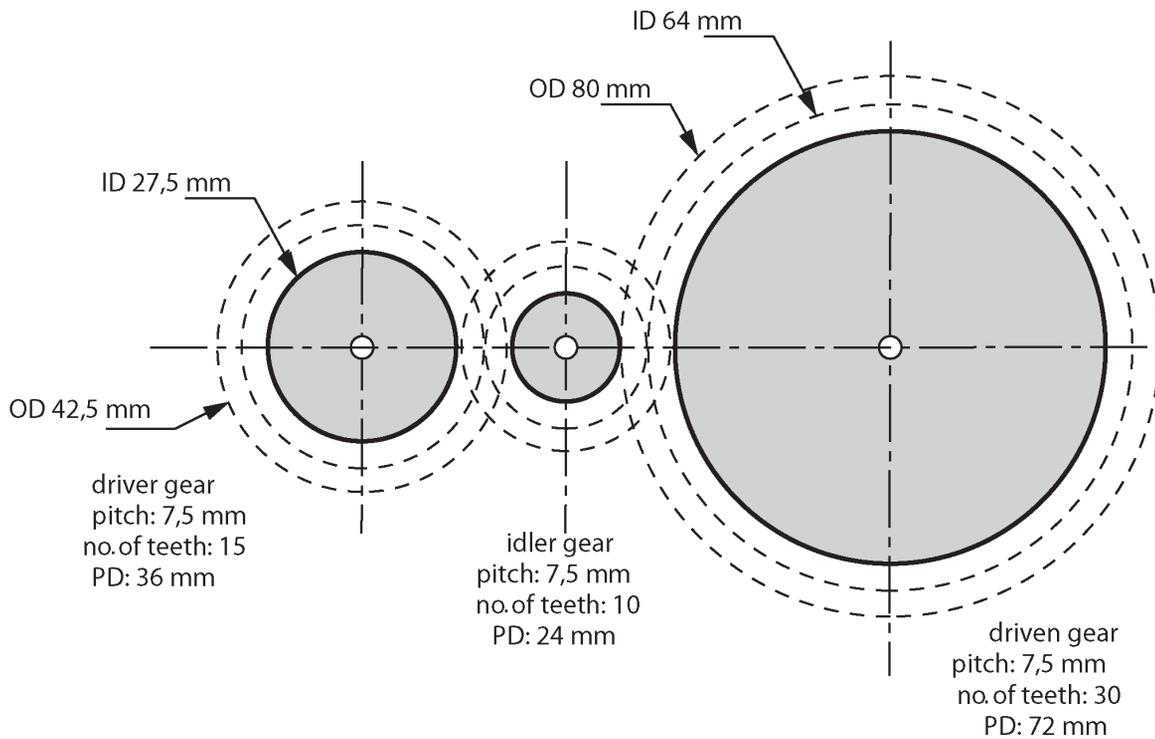

Figure 9: (This drawing is not drawn to scale.)
1. Draw the gear system in Figure 9 on grid paper, to a scale of 1:1.